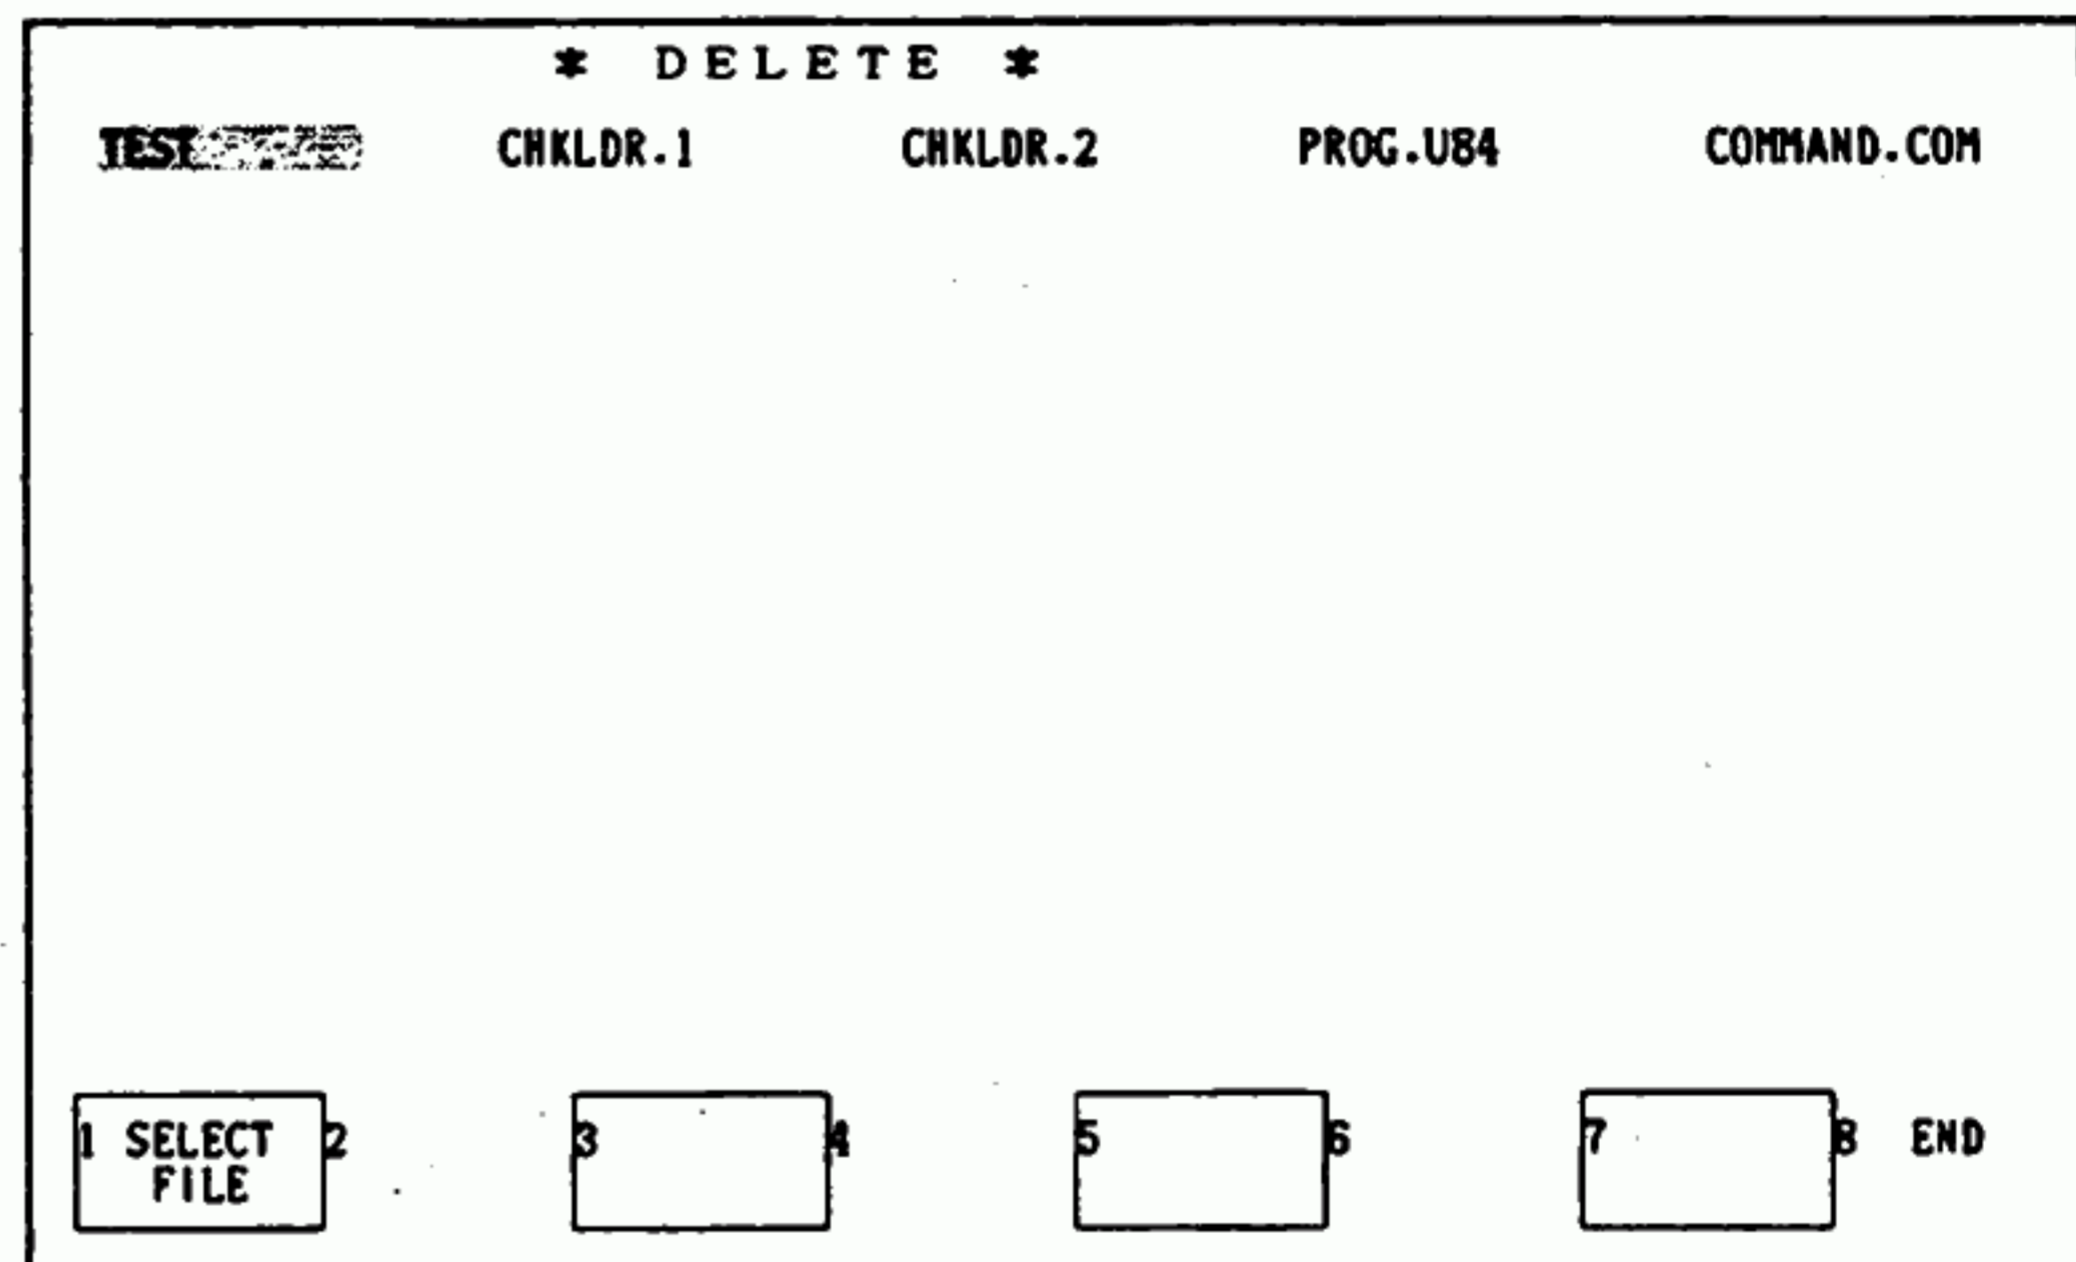
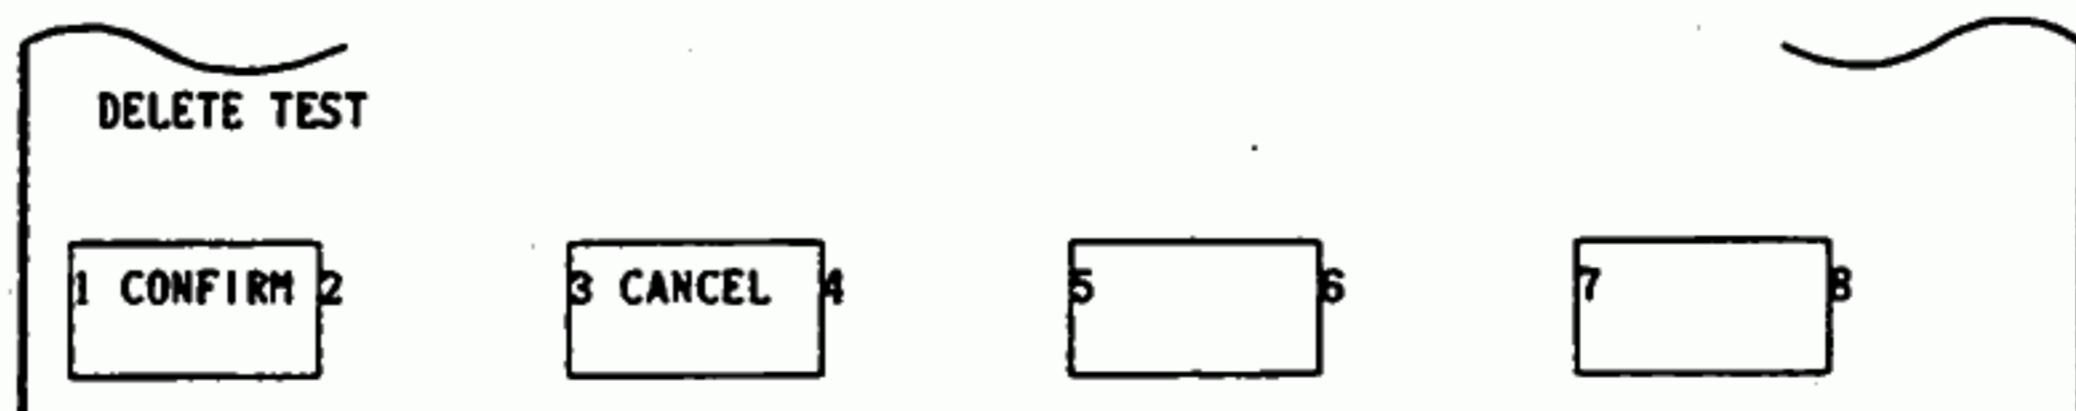

Fig. 4.227
Fig. 4.228
1. Depressing **CANCEL** key (Fig. 4.228) returns the display as shown in Fig. 4.227.